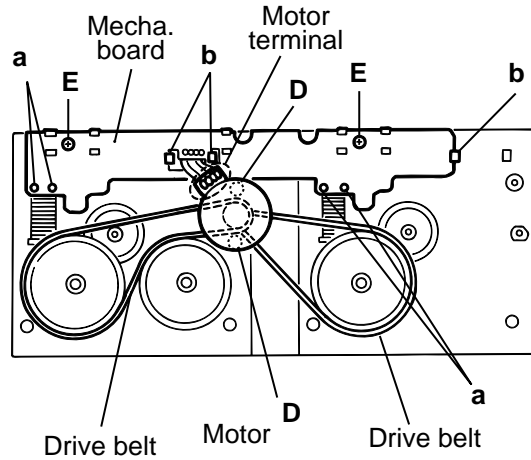

Fig.5
1. Unsolder the four parts a on the solenoid coil terminal.(Fig.5)
2. Remove the two screws E fixing the board.(Fig.5)
3. Unhook the three parts b from the board.(Fig.5)
4. Remove the mechanism board.(Fig.5)